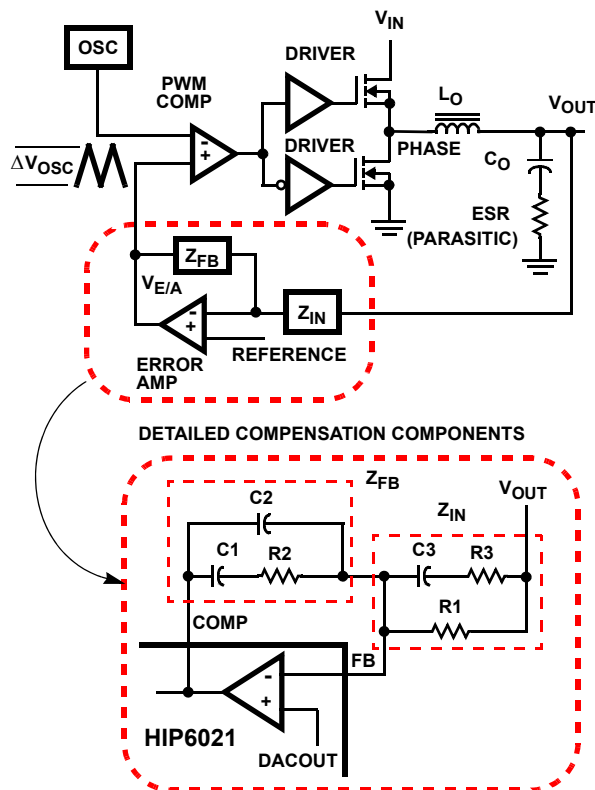
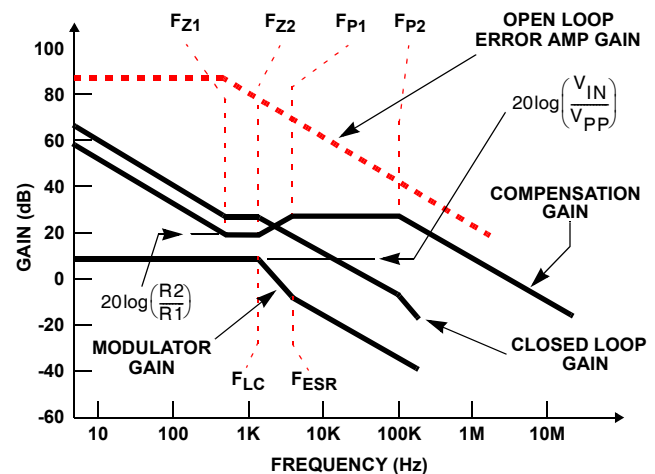

FIGURE 9. VOLTAGE-MODE BUCK CONVERTER COMPENSATION DESIGN
FIGURE 10. ASYMPTOTIC BODE PLOT OF CONVERTER GAIN
Figure 9 highlights the voltage-mode control loop for a synchronous-rectified buck converter. The output voltage (V_{OUT}) is regulated to the Reference voltage level. The reference voltage level is the DAC output voltage (DACOUT). The error amplifier (Error Amp) output ($V_{E/A}$) is compared with the oscillator (OSC) triangular wave to provide a pulse-width modulated (PWM) wave with an amplitude of V_{IN} at the PHASE node. The PWM wave is smoothed by the output filter (L_O and C_O).
Figure 10 shows an asymptotic plot of the DC-DC converter's gain vs. frequency. The actual Modulator Gain has a high gain peak dependent on the quality factor (Q) of the output filter, which is not shown in Figure 9. Using the above guidelines should yield a Compensation Gain similar to the curve plotted. The open loop error amplifier gain bounds the compensation gain. Check the compensation gain at F_{P2} with the capabilities of the error amplifier. The Closed Loop Gain is constructed on the log-log graph of Figure 10 by adding the Modulator Gain (in dB) to the Compensation Gain (in dB). This is equivalent to multiplying the modulator transfer function to the compensation transfer function and plotting the gain.